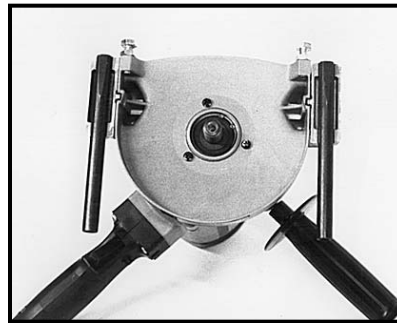

Fig. 6
3. Position Paint Remover Attachment to power unit (Fig. 6) and secure, using the three furnished round head machine screws. Tighten screws firmly.